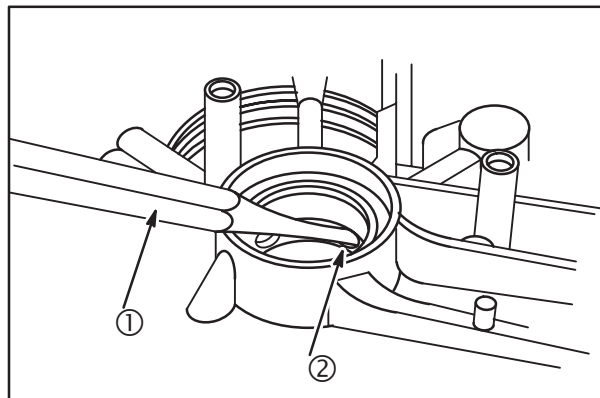

Fig. 10
1. Drive roll pin (2) into oil gallery using a 3/16" punch (1), **Fig. 10**.